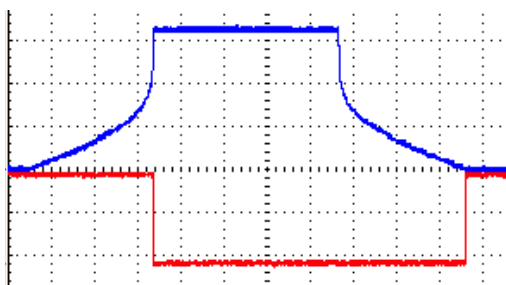

Figure 11a: End-of-Fall (EOF) Gate aka "Is Rising or Resting"
- End-of-Fall outputs a gate that goes high when the fall segment ends and goes low when a rise segment ends. It is low during a sustain segment. It will stay high when the envelope is not running. Another name for this jack might be "Envelope is Rising or Resting". System Mode selects whether it outputs gates or triggers. See *Figures 11a and 11b*.